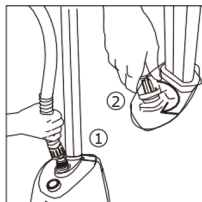

Fig. 3
4. Put the steam hose onto the threaded hose base by turning the fitting on the end of the steam hose clockwise (Fig. 3). Hands tighten only. Avoid over-tighten.